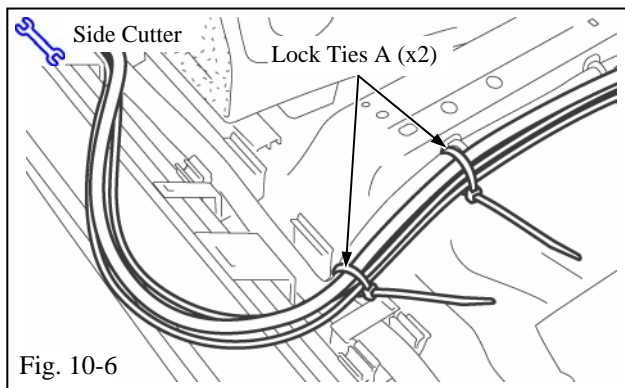

Fig. 10-6
(h) Route the tuner cable, antenna cable, and ground cable as shown, and then secure them with the two (2) lock ties A. (Fig. 10-6)